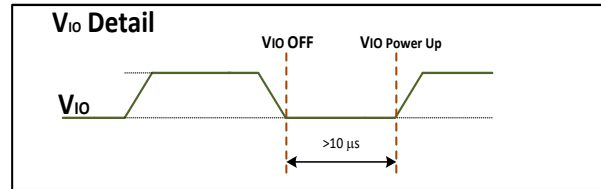

Figure 1 Digital Supply Detail
1. Once VIO is powered down to 0V, wait a minimum of 10  $\mu$ s to reapply power to VIO. (see figure 1)